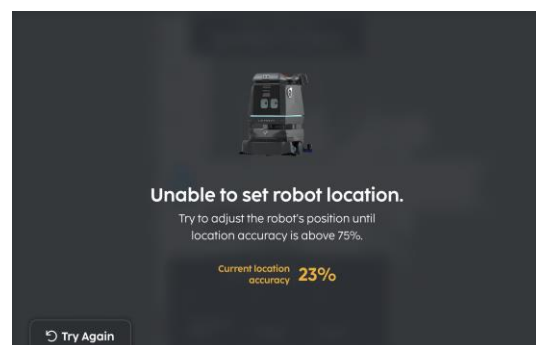

FIGURE 5-5
3. If localizations failed select 'Try Again' (Fig 5-5).